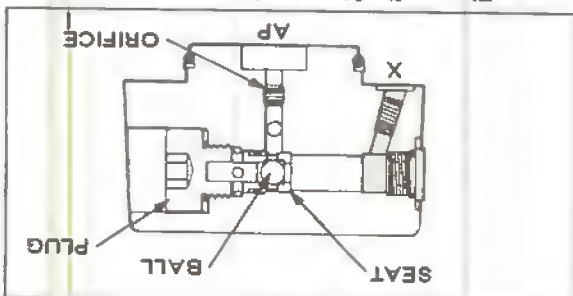
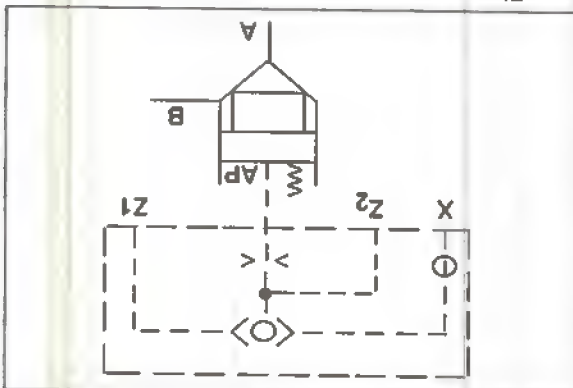

Figure 7. Shuttle Cover Assembly (W Function)
Figure 7a. Shuttle Valve Operation (W Function)
This shuttle cover assembly is available in the 16, 25, 32 and 40mm size. The shuttle cover will take the higher of two pressures and direct it into the pilot spring area (AP) of the cartridge valve insert. Orifices are available in the cover to control reaction time of the poppet. A seat is pressed into the cover bore and a ball is inserted. The outer plug is then installed into the cover. The outer plug retains the ball and seat between the spring area (AP) and the 'Z1' port. The outer plug also has an O-ring and back-up ring to prevent leakage between the (AP) and 'Z1' port areas. Figure 7 shows the construction of a shuttle cover (W function) assembly. The shuttle valve operation is illustrated in Figure 7a.